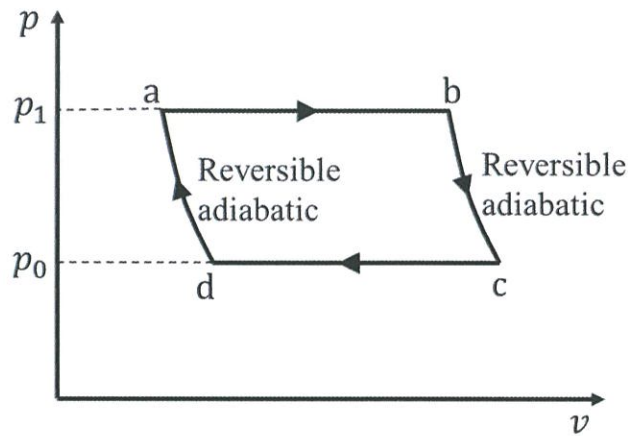

Figure 1-1
- I. Consider a heat engine cycle represented by the  $p - v$  diagram, as shown in Figure 1-1. The working fluid is an ideal gas with a specific heat at constant pressure  $c_p$  and specific heat ratio  $\kappa$ . Here,  $c_p$  and  $\kappa$  are constant. The heat engine cycle consists of two constant pressure processes (State  $a \rightarrow$  State  $b$  and State  $c \rightarrow$  State  $d$ ) at pressures  $p_1$  and  $p_0$  ( $p_1 > p_0$ ), and two reversible adiabatic processes (State  $b \rightarrow$  State  $c$  and State  $d \rightarrow$  State  $a$ ). The temperatures at States  $a$ ,  $b$ ,  $c$ , and  $d$  are  $T_a$ ,  $T_b$ ,  $T_c$ , and  $T_d$ , respectively.